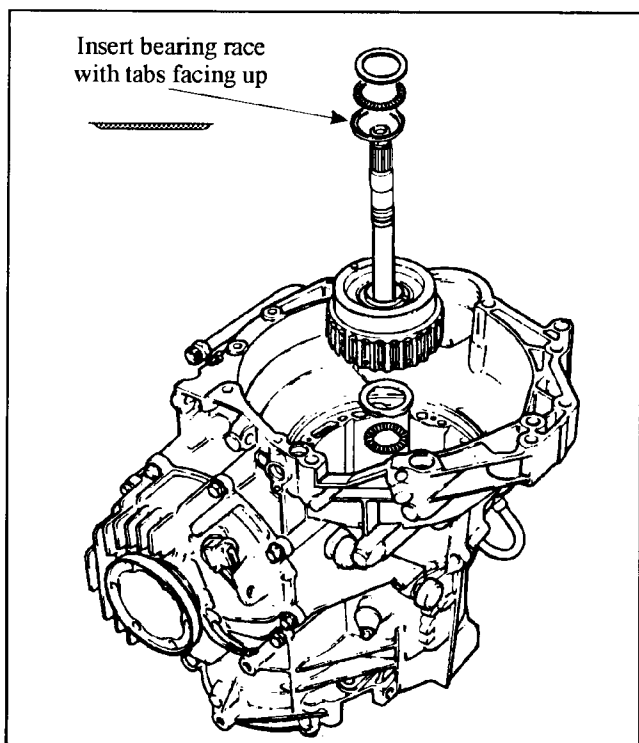

Figure 151
24. Install the K3 drum into the case, and twist until the clutches are splined onto the small drive shaft (See Figure 151).
25. Insert the torrington bearing and both races onto the K3 drum (See Figure 151).